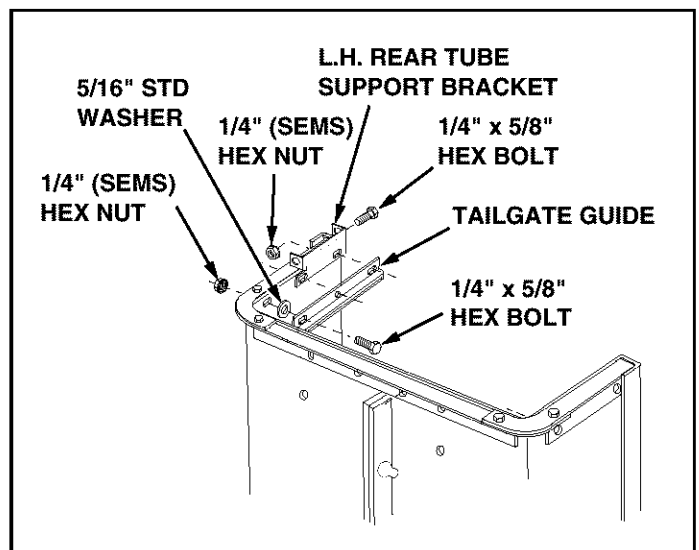

FIGURE 3
- Assemble the L.H. Rear Tube Support Bracket to the top flange of the cart using a 1/4" x 5/8" hex bolt and 1/4" SEMS hex nut. **Do not tighten yet.** See figure 3.
- Fasten a Tailgate Guide to the Tube Support Bracket and the side of the cart using three 1/4" x 5/8" hex bolts, a 5/16" washer and three 1/4" SEMS hex nuts. Place the washer on the bottom hole between the Tailgate Guide and the side of the cart. **Do not tighten yet.** See figure 3.